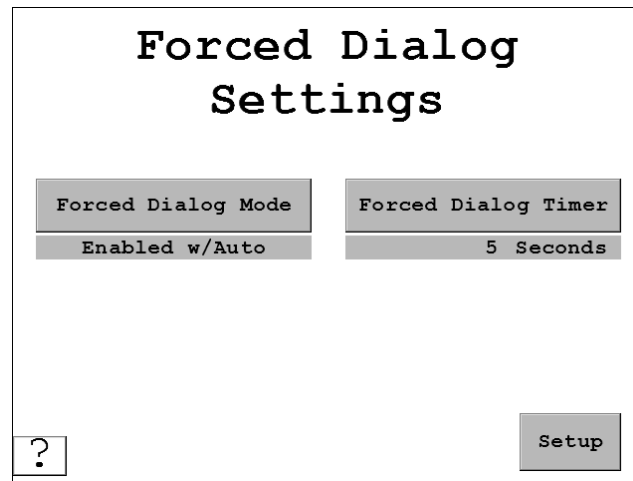

Figure 2-9. Forced Dialog Settings Screen
2. Press *Forced Dialog*. The Forced Dialog Settings screen, shown in Figure 2-9, displays.